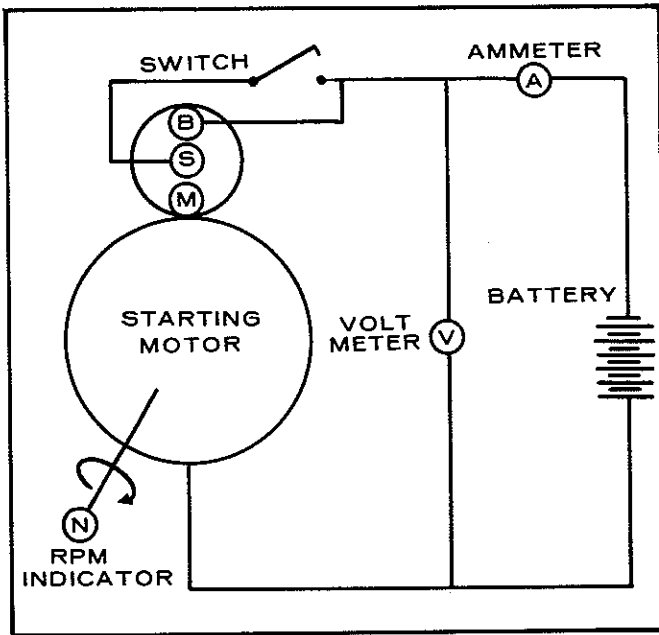

FIGURE 18-23. NO LOAD TEST WIRING
1. For no load test, wire the starting motor as shown in Figure 18-23. With the motor running, the meter readings should be as follows: